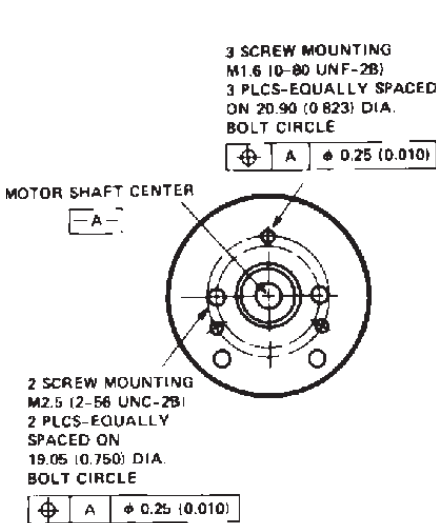
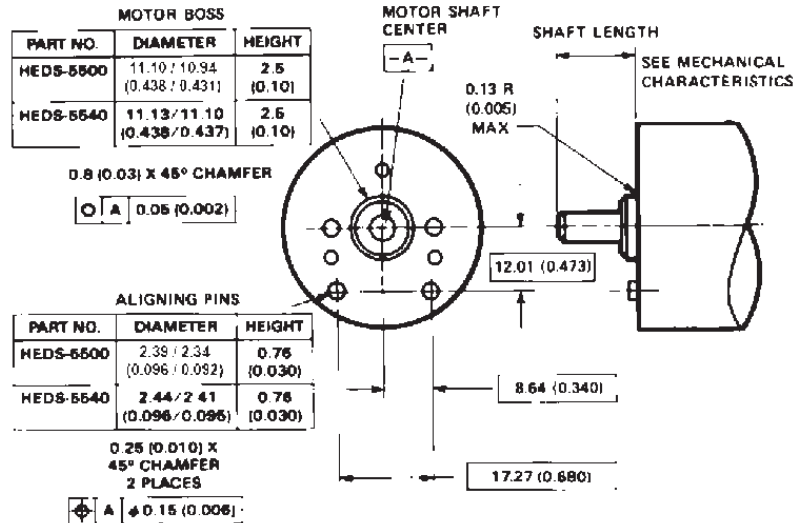
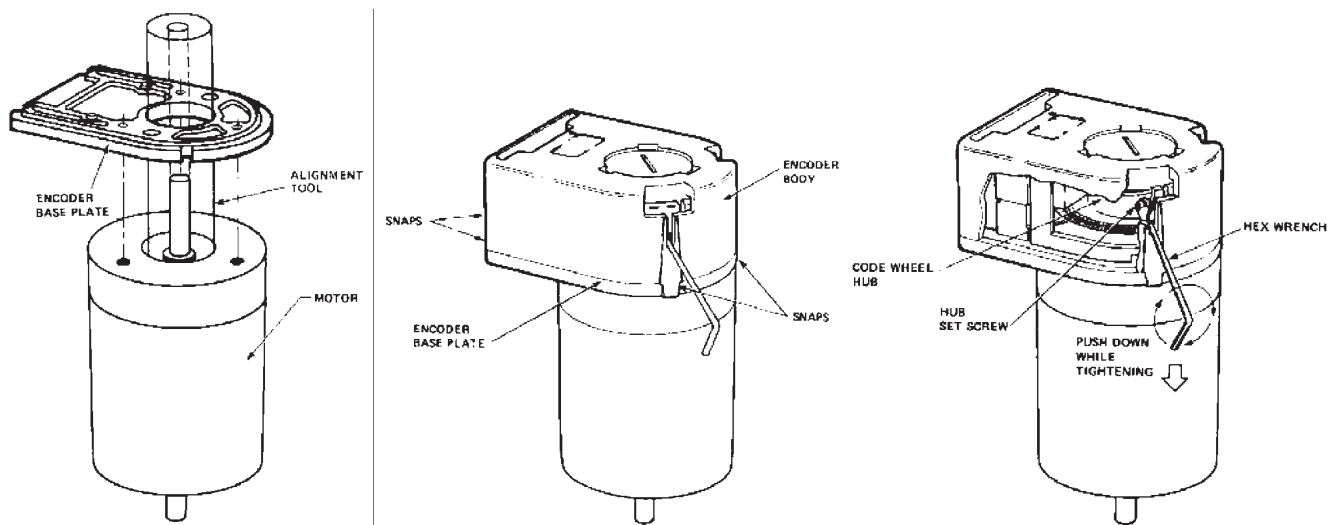

Figure 2. Mounting Holes.
Figure 3. Optional Mounting Aids.
Figure 4. Mounting with External Ears.
3. The HEDS-5540 and 5640 must be aligned using the aligning pins as specified in Figure 3, or using the alignment tool as shown in "Encoder Mounting and Assembly". See also "Mounting Considerations."
The HEDS-5540 and 5640 three channel encoders and the HEDM Series high resolution encoders must be aligned using the aligning pins as specified in Figure 3, or using the HEDS-8910 Alignment Tool as shown in Encoder Mounting and Assembly.
The use of aligning pins or alignment tool is recommended but not required to mount the HEDS-5500 and 5600. If these two channel encoders are attached to a motor with the screw sizes and mounting tolerances specified in the mechanical characteristics section without any additional mounting bosses, the encoder output errors will be within the maximums specified in the encoding characteristics section. The HEDS-5500 and 5540 can be mounted to a motor using either the two screw or three screw mounting option as shown in Figure 2. The optional aligning pins shown in Figure 3 can be used with either mounting option. The HEDS-5600, 5640, and HEDM-5600 have external mounting ears which may be used for mounting to larger motor base plates. Figure 4 shows the necessary mounting holes with optional aligning pins and motor boss.